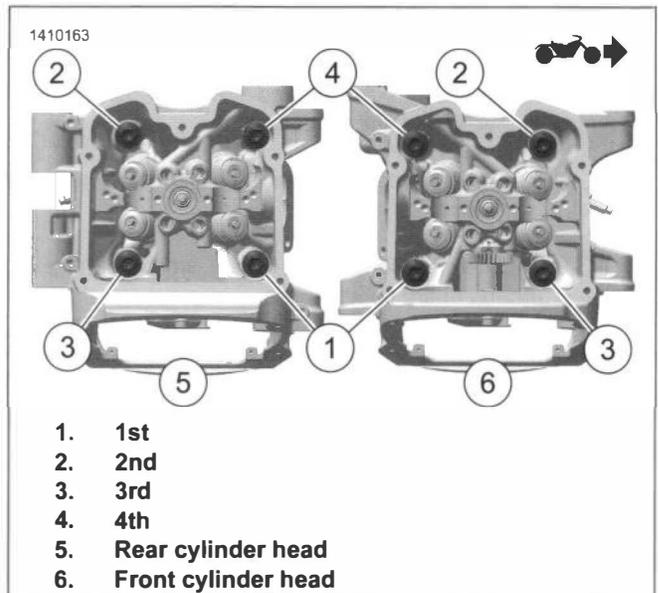

Figure 4-39. Cylinder Head Screw Torque Sequence
- a. Install **new** gasket (3).
- b. Install cylinder head (2) on dowel pins (4).
- c. Install **new** screws (1).
4. See Figure 4-39. Tighten **new** screws in sequence: